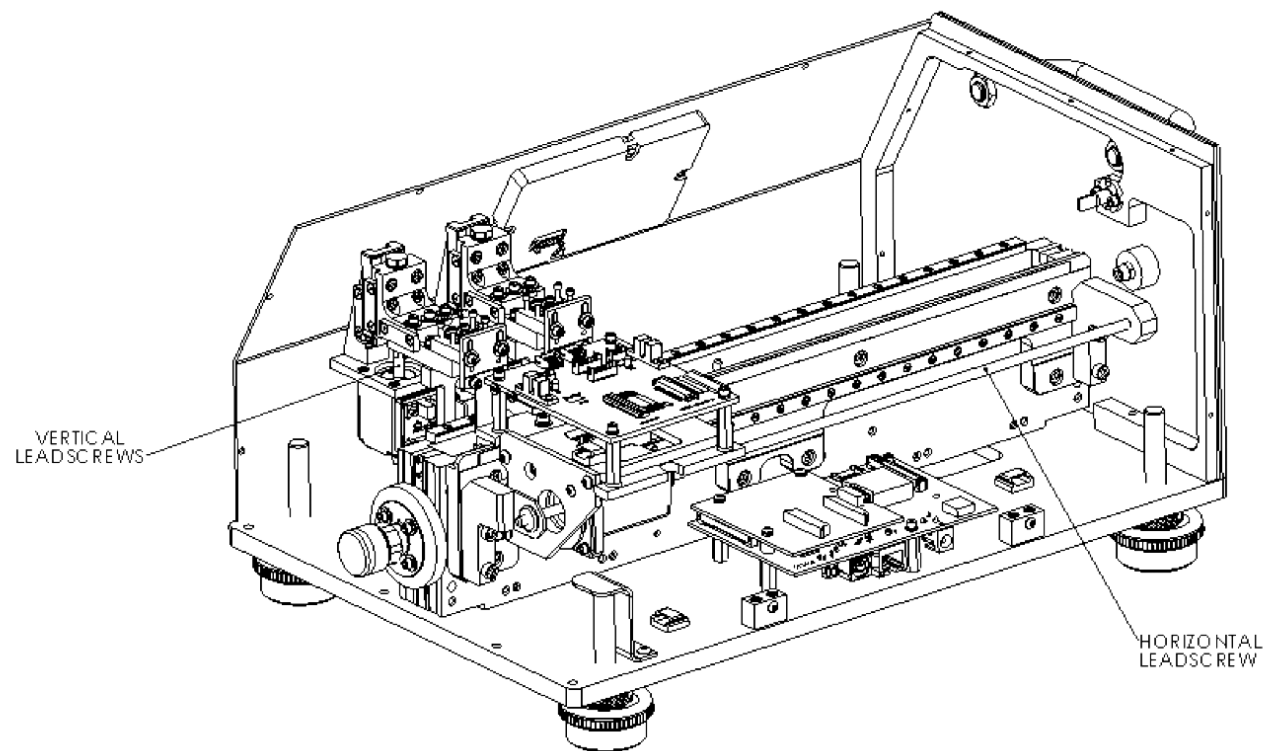

Figure 2. Lubrication Points (one side panel hidden to show carriage detail)
1. Set the probes and carriage motors to position zero (0) to expose the majority of the lead screws.
3. Remove the tuner's back and top cover panels, in that order, by removing eight (8) screws around the edges of the back panel and six (6) screws on the top panel. DO NOT remove the side or front panels.
4. Apply a small amount of lubricant to the vertical and horizontal lead screws shown on Figure 2. The amount of lubricant to be applied should be enough to cover the entire surface of the lead screws on every thread.